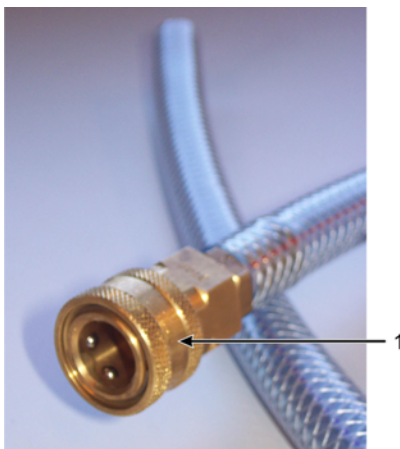

Figure 53. Remote fill/drain hose with locking ring (1)
- Before filling or draining reagent bottles, connect the remote fill/drain hose (see Figure 53) to the remote fill/drain line (left connection in Figure 53). The hose has a push-fit coupling that ensures a secure connection to the line.
To fit the hose, slide back the fill/drain flap, and push the coupling onto the end of the line. To remove the hose, slide back the locking ring (item 1 in Figure 53) and pull the hose off the remote fill/drain line.